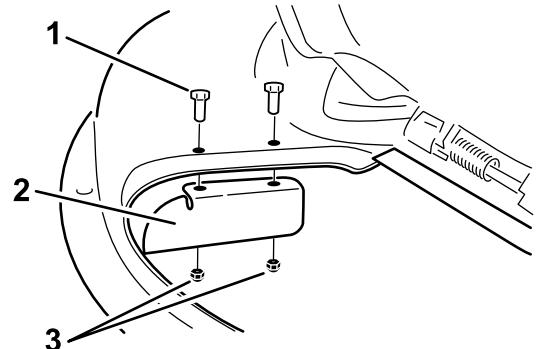

Figure 18
Install the cutoff baffle to the mower deck (Figure 18).
3. Remove the cutoff baffle from the mower deck (Figure 18).